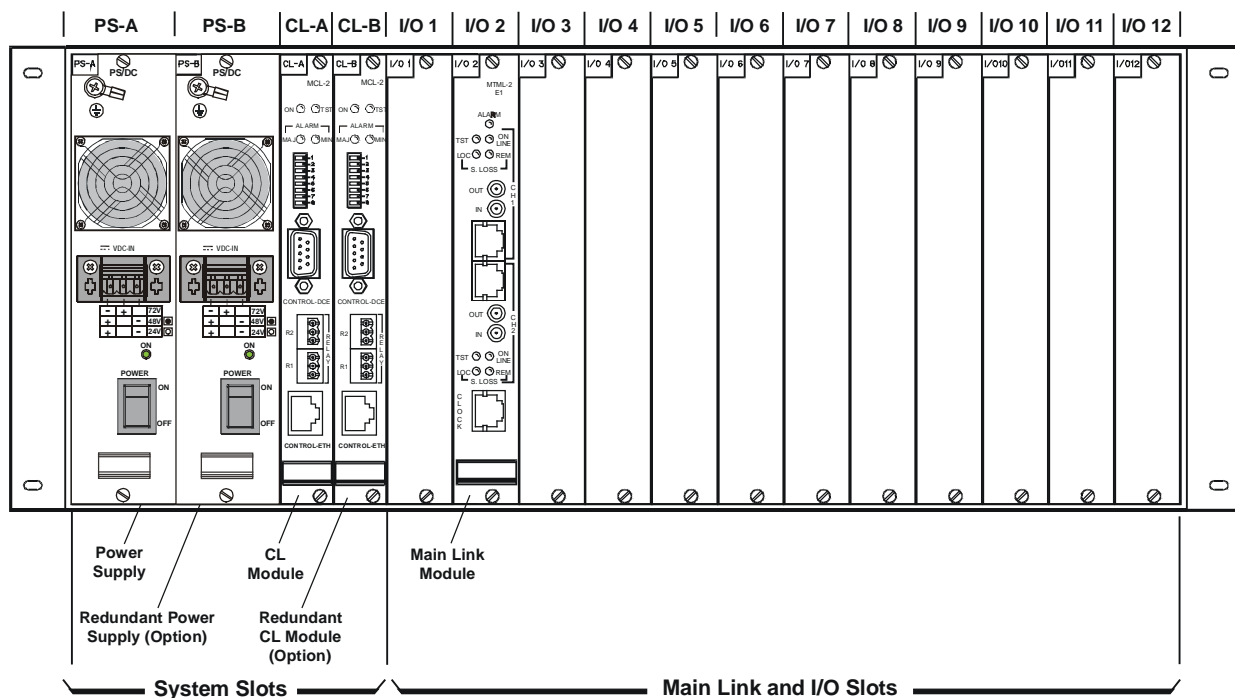

Figure 1-4. MP-2100 Enclosure, Typical Rear View
*Figure 1-4* shows a typical rear view of the MP-2100 enclosure and identifies the slots and their use. Note the labels which designate the type of module that can be installed in each slot; in addition, each slot is keyed, therefore it is not possible to install the wrong module type.